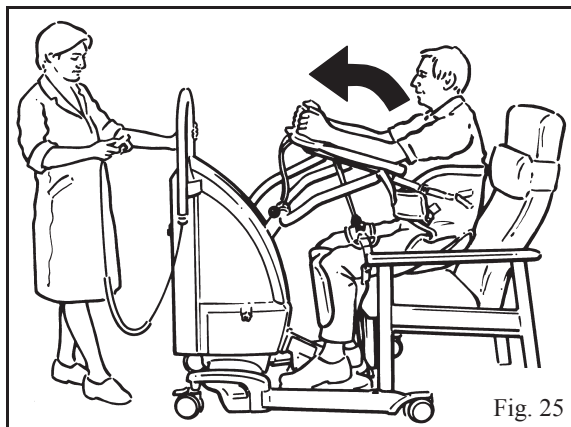

Fig. 25
7. Operate the lift button on the handset or dual control panel, continue to raise until each attachment strap is in tension and the patient's back just comes away from the chair, then stop the lift. (See Fig 25)